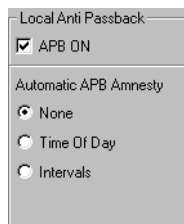

Figure 2-10: No Automatic APB Amnesty
- Click on the  button. A “Saved Configuration” window flashes on the screen and then the three types of APB amnesty appear as radio buttons displayed in the Automatic APB Amnesty field (see Figure 2-10).
When the None radio button is ON (see Figure 2-10), it means that although APB is in use, amnesty is never automatically granted. If amnesty is ever required for a user, it can be manually granted by an operator (this process is described in “Anti Passback Amnesty” on page 26 in section 6).